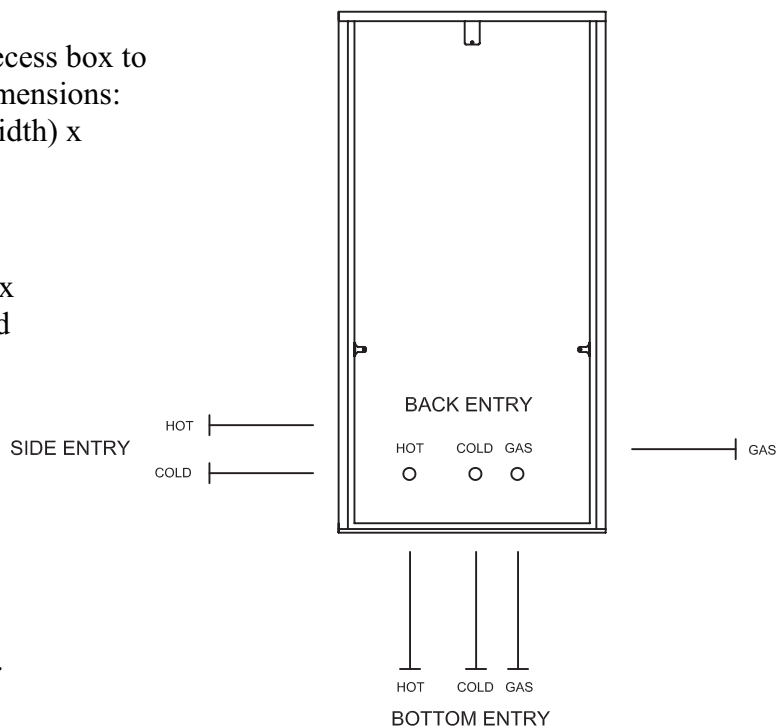

Figure 2: Piping options.
• Drill 3 holes in the recess box to accommodate the water and gas lines. Suggestions for the holes are shown in Figure 2. Additional holes for running the electrical and remote controller wires will be needed as well.